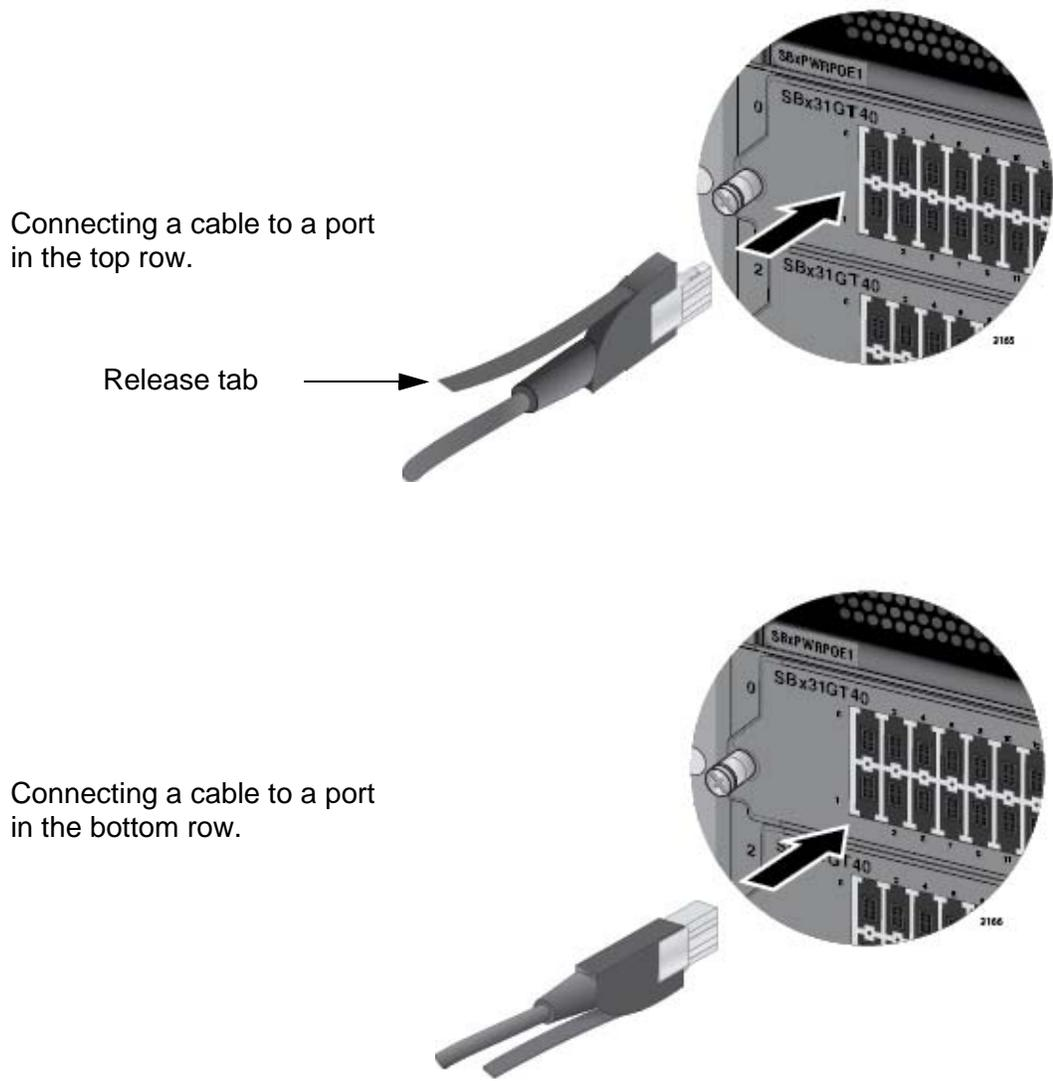

Figure 81. Connecting Cables to Ports on the AT-SBx31GT40 Line Card
- ❑ To connect a cable to a port in the top role on the line card, orient the connector with the release tab on top. To connect a cable to a port in the bottom role, orient the connector with the release tab on the bottom. Refer to Figure 81 on page 146.